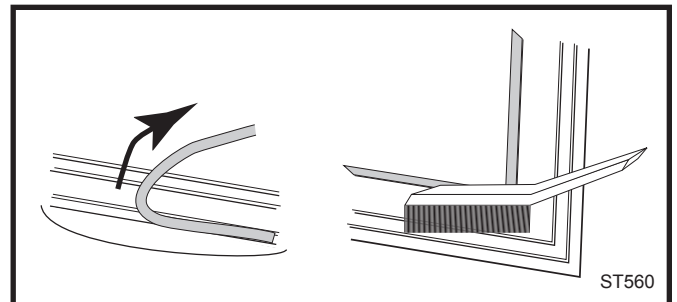

Fig. 46 Remove gasket then clean channel with wire brush.
2. Use a wire brush or the tip of a screwdriver to clean the channel of any remaining cement or bits of gasket. (Fig. 46) Remove stubborn deposits of cement with a cold chisel if necessary.